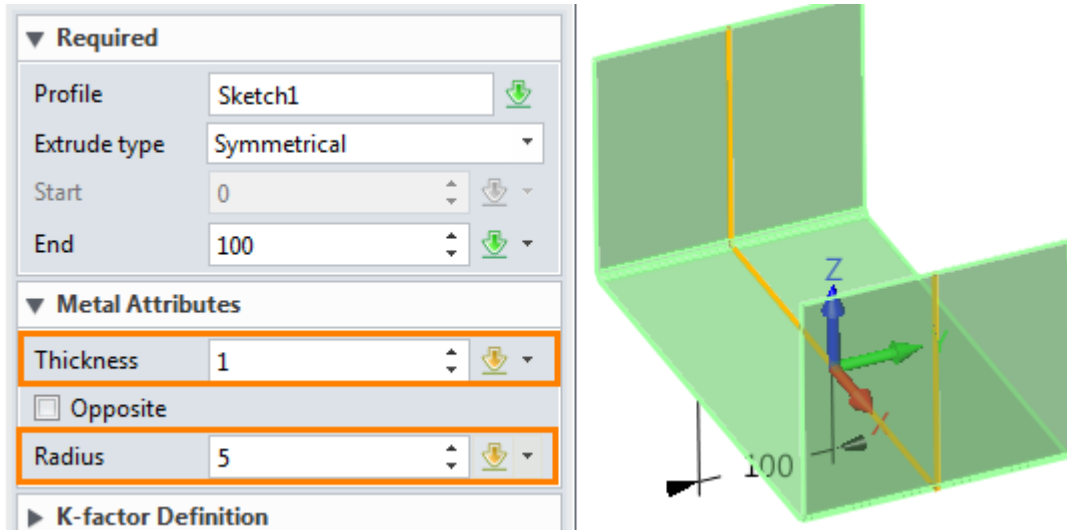

Figure9 Extrude Flange
STEP 02 Extrude flange as shown in Figure 9.